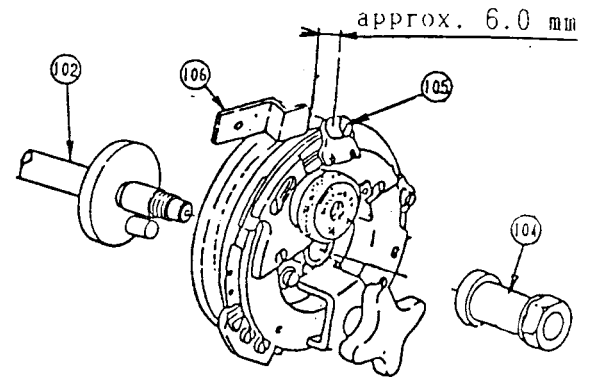

Fig.22
Adjustment of Machine Stop Position. (Figs.22,23,24,25 and 26)
Machine stop position will vary a little when machine has been run in a certain extent. While space between operating lever(intermediate) roller(105) and opening lever extension(106) is within 5.0 - 12.0mm (Fig.22) and distance between right end of thread and cord cutting blade guard(109) and centerline of throat plate is within 12.7 -20.7mm or 7.0 - 12.7mm between right end of guard (109) and left edge of throat plate, the machine is still possible for normal sewing. When variation exceeds the above range, readjust machine stop position as described in preceding paragraphs.